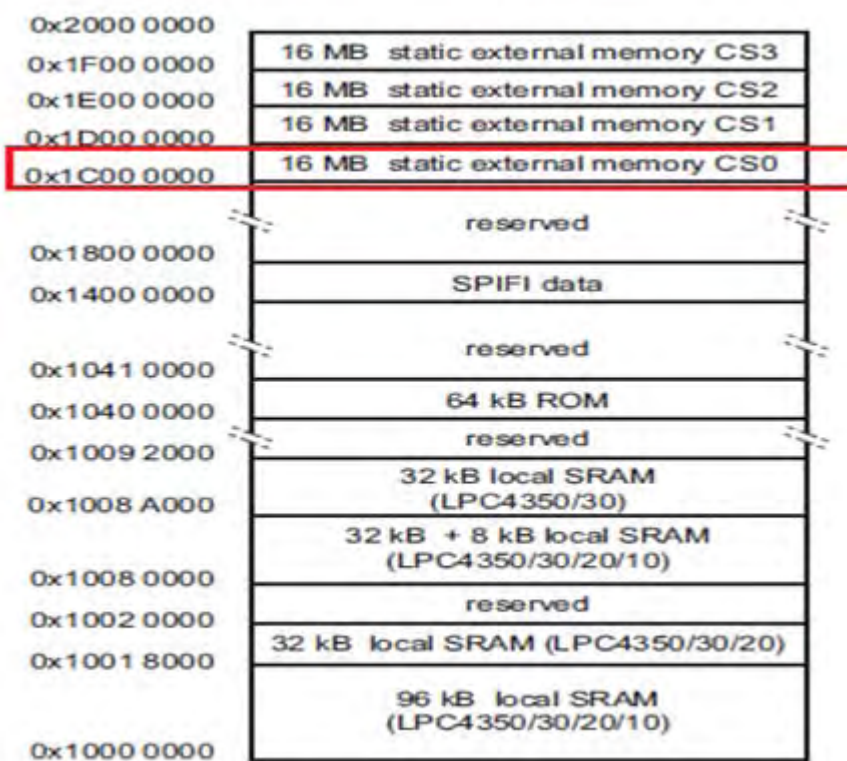

Fig 7. Static external memory mapping
- Start Address – 0x1C000000. This can be found out by determining the bank to which the external flash is connected. For the MCB1800, the bank is CS0. The memory map diagram is shown in Fig 7.